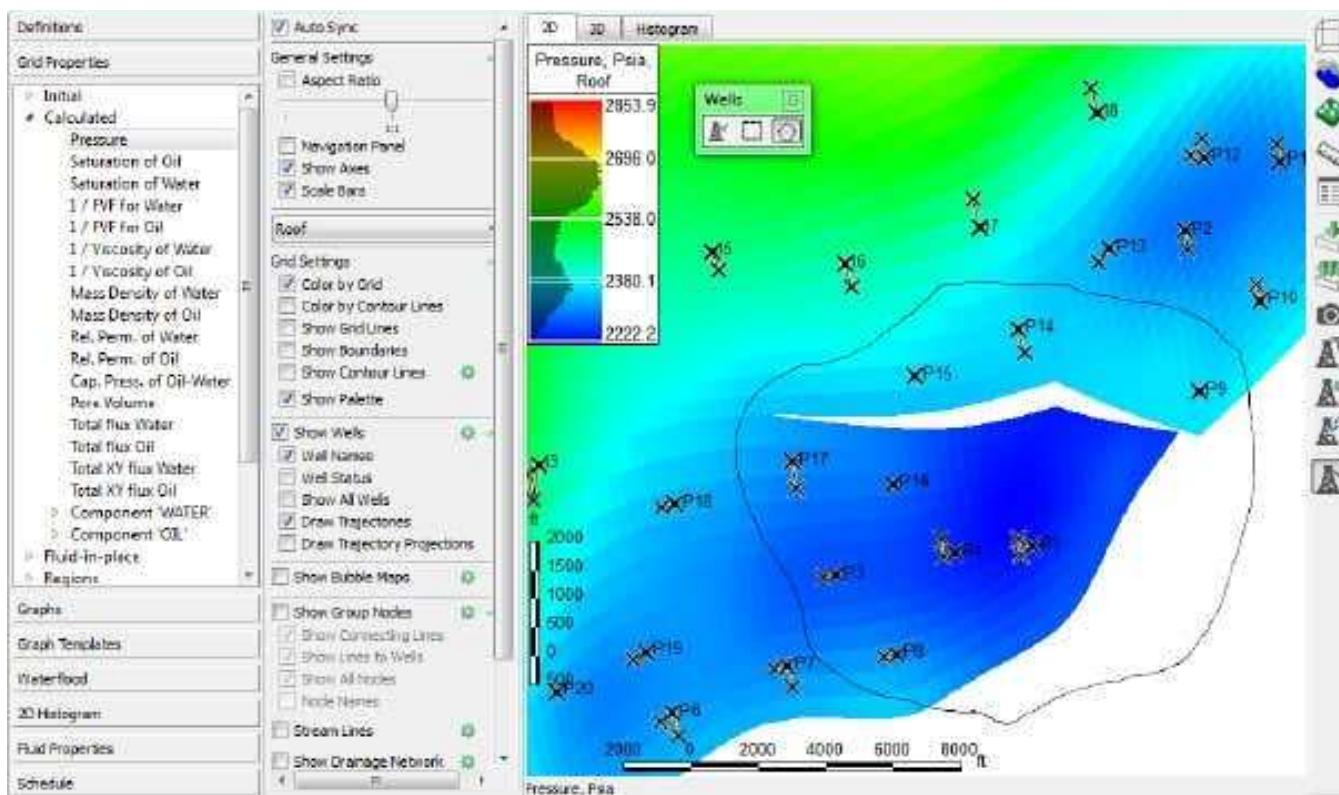

Figure 43. Freeform Well Selection.
3. **Freeform Well Selection.** The freeform area is set. Well which are inside this area will be included in the selection (figure 43). If it is necessary to select two or more well areas, specify them while holding **Shift** button. If it is necessary to remove some wells from selection, get them in an area while holding **Ctrl** button.